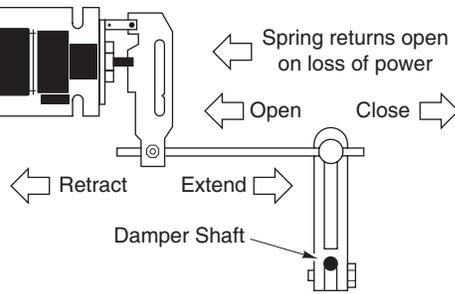
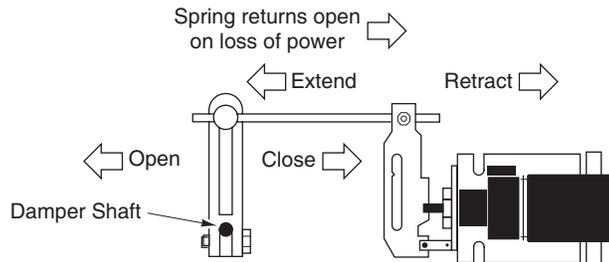

Figure-13 Dampers Open When Actuator Retracts (Spring>Returns Open on Power Loss).
Figure-14 Dampers Open When Actuator Extends (Spring>Returns Closed on Power Loss).
- Determine, from the system requirements, if the damper should spring-return to the open position (Figure-13) or closed position (Figure-14) whenever power is lost to the actuator. For example, an outside air damper actuator is typically linked so as to retract (spring-return) to the damper's fully closed position (safe position).